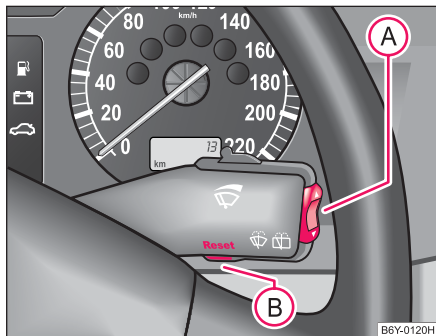

Fig. 11 Information display: Controls
- You can activate the menu by pressing the rocker switch (A) ⇒ fig. 11 for more than 1 second.
The error messages are faded out after 10 seconds or by actuating the rocker switch (A) ⇒ page 22, fig. 11 and are stored under the information **CAR STATUS**.